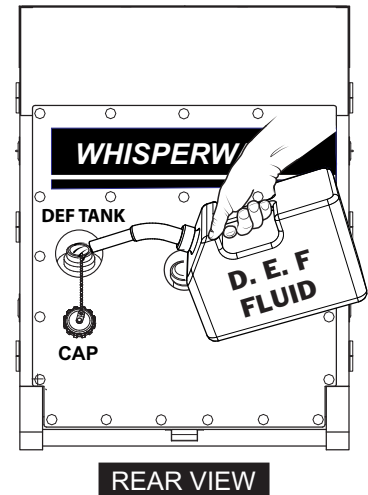

Figure 41. Filling The DEF Tank
2. Remove the filler cap from the DEF tank (Figure 41).